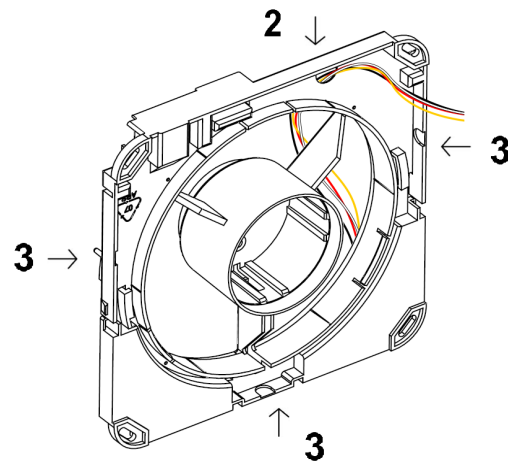

Fig.7 Inserting cables
Fracture the tax provided for the connections passage (2), in the case of external connections not under trace fracturing the planned areas (3) both on the motor support that on the cover (fig.7).